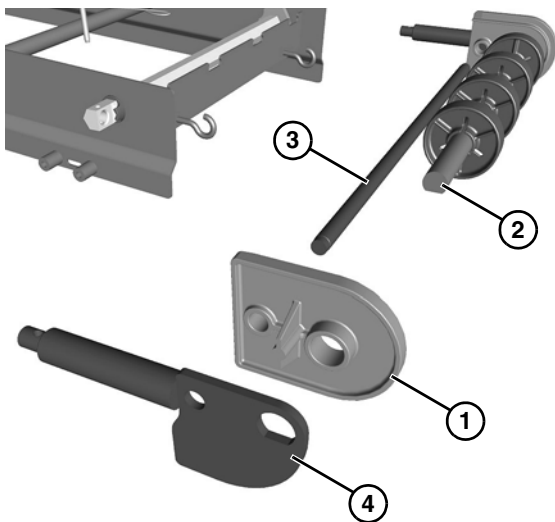

Figure 69
3. Install the tracking plate (Figure 69, item 1) to each side onto idler shaft (Figure 69, item 2) and pinch guard shaft (Figure 69, item 3).
4. Install the shaft assembly (Figure 69, item 4).